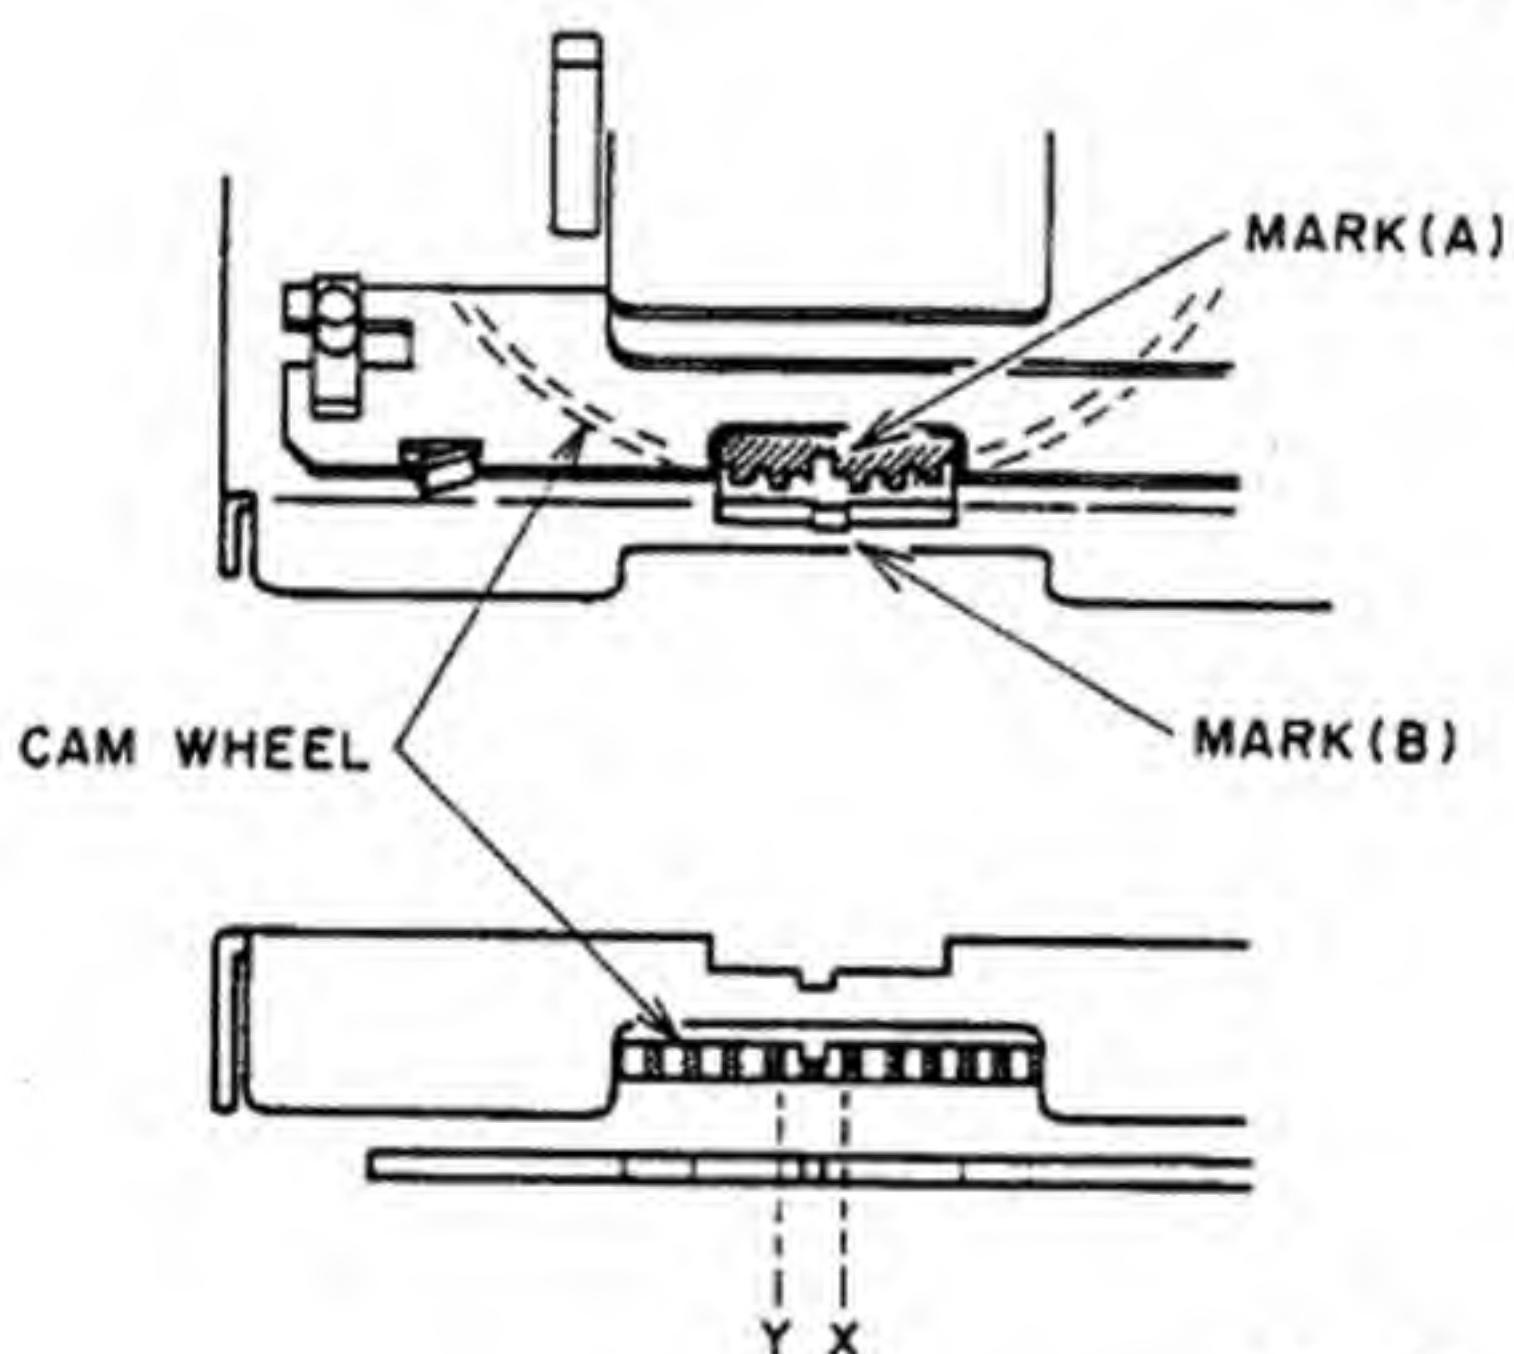

Fig. 5-2
- 5) Next, while pressing up slightly on the decoration stopper on the upper right and left sides, move the lid decoration forward and down, disengaging it from the holders and guide shafts on the bottom left and right. (See Fig. 5-2.)
- Adjust VR1 slightly so that the center of marker (A) coincides with the center of marker (B) (should be within the range between X and Y) at STOP modes as shown on Fig. 5-2. (The marker (A) on the CAM WHEEL can be seen clearly by lighting it from the back.)